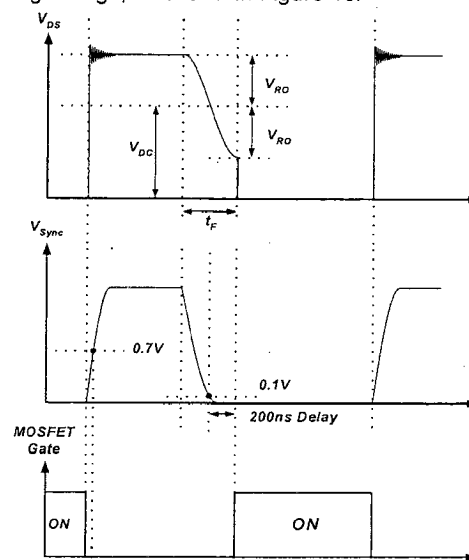

Figure 15. Valley Switching Waveforms
3. Synchronization: The FSQ510(H) employs a valley switching technique to minimize the switching noise and loss. The basic waveforms of the valley switching converter are shown in Figure 15. To minimize the MOSFET's switching loss, the MOSFET should be turned on when the drain voltage reaches its minimum value, as shown in Figure 15. The minimum drain voltage is indirectly detected by monitoring the V_{CC} winding voltage, as shown in Figure 15.